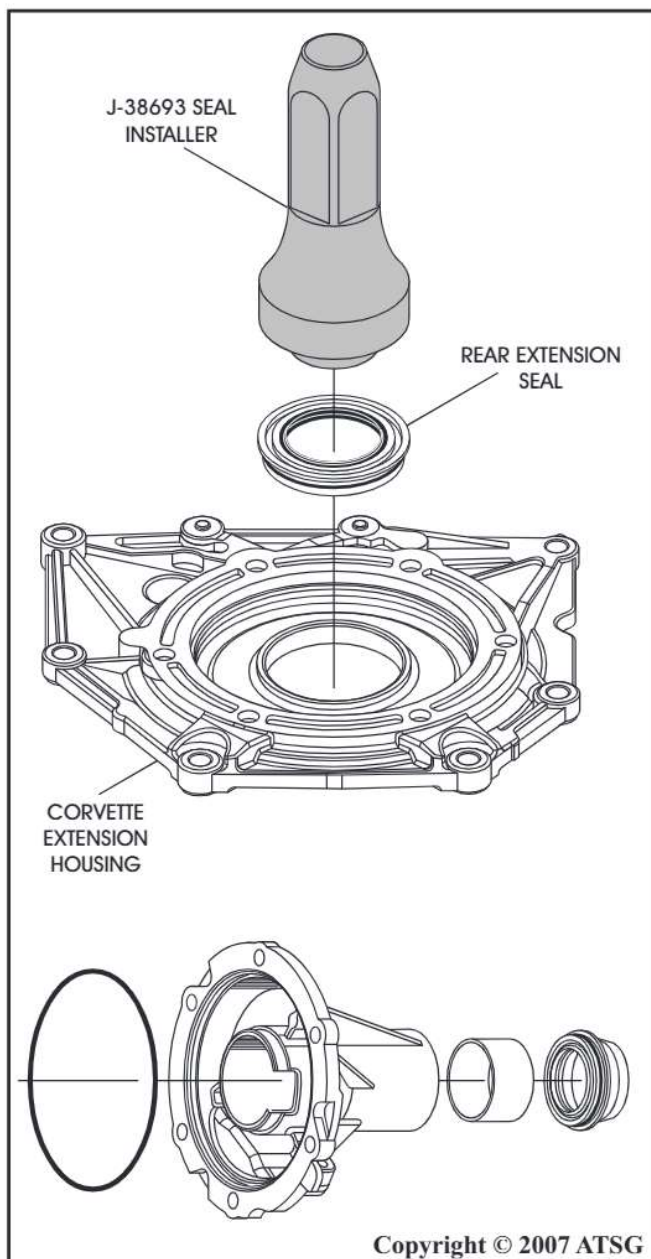

Figure 152
1. Install a new metal clad seal into the extension housing, as shown in Figure 152, using proper seal driver.
- Note:** *Corvette version is illustrated, 2WD version is also shown in Figure 152.*